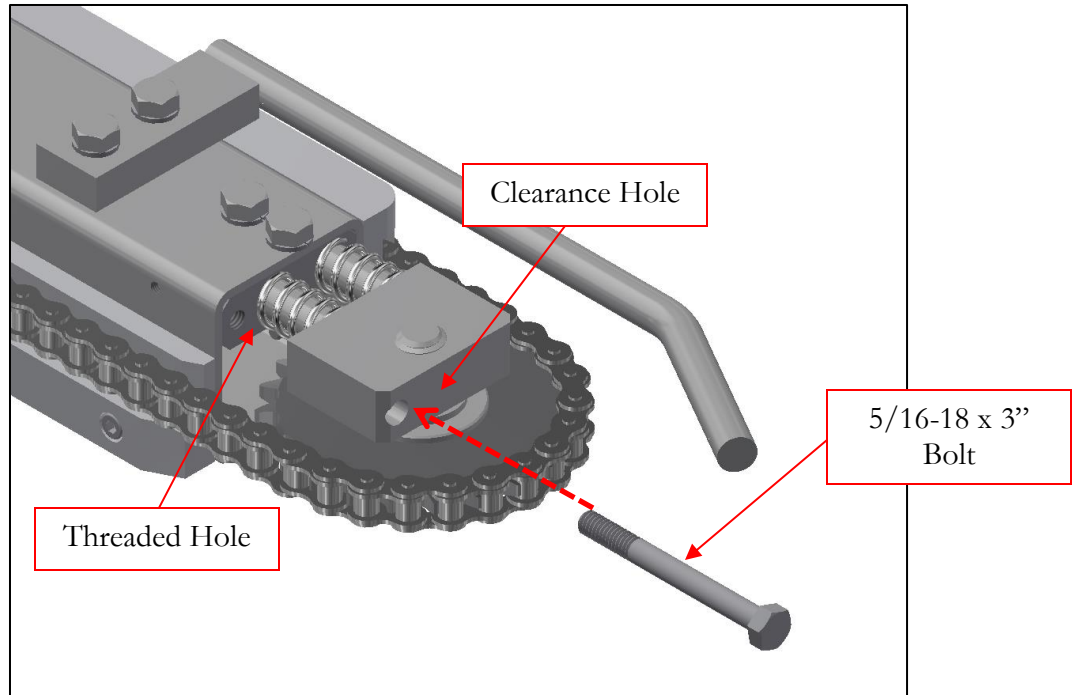

Figure 1. Inserting bolt into clearance hole.
1. Locate the clearance hole on the side of the main drive that you wish to service. Insert 5/16-18 x 3" bolt and begin to thread it into the hole. (See Figures 1 and 2 below.)